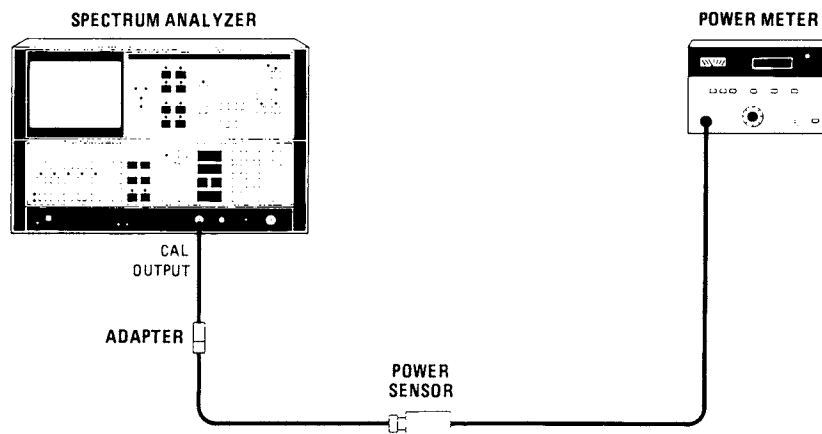

Figure 4-16. Calibrator Amplitude Accuracy Test Setup
1. Connect equipment as shown in Figure 4-16.